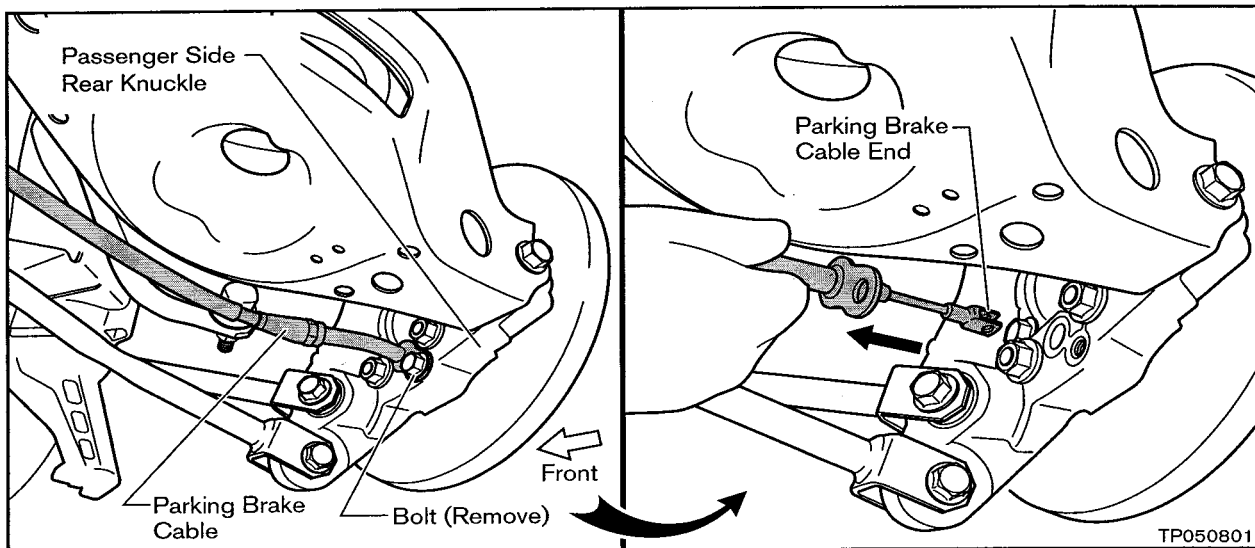

Figure A12
- d. Finally, remove the bolt and remove the parking brake cable from the back side of the knuckle (see Figure A12).
- e. Do the same procedure to remove the cable from the driver's (LH) side knuckle.